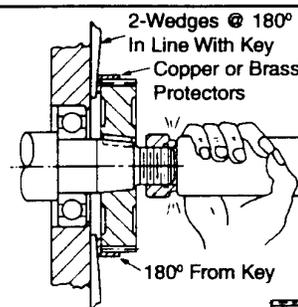

Figure 4A
- F. Remove taper-bore gear from bevel pinion shaft (Figure 4A or 4B). Leave locknut loosely threaded on shaft to prevent gear from "popping" out of unit. If gear is to be reused, protect the gear teeth with copper or brass sheet stock. Using wedges or pry bar, tap wedges behind gear or pry gear away from inner housing wall. While holding pressure on gear, lightly tap locknut on shaft end to loosen gear on shaft. Remove nut, other shaft assemblies (Step 7E) and taper bore gear, work high speed shaft assembly around high speed bearing oil distributor to remove.
C. Remove taper bore gear from bevel pinion shaft: Leave gear locknut loose on shaft to prevent gear from "popping" out of unit upon fit release. Use gear removal methods as shown in Figures 4A thru 4D (wedge or pry bar method on sizes MB-54 thru MB-56 and wheel puller method on Sizes MB-57 thru MB-59). If required, apply heat to gear hub (with removal force applied) to release gear from shaft. Do not reuse gear if gear teeth were heated over 275°F. remove lock nut and gear.